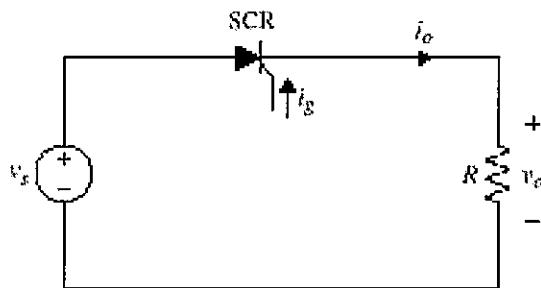

Figure 2.6 – Single Phase Half Wave Controlled Rectifier With Resistive Load Circuit
2. Connect the circuit according to the circuit diagram in figure 2.6 given.